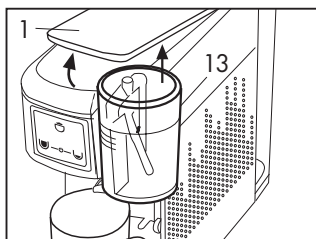
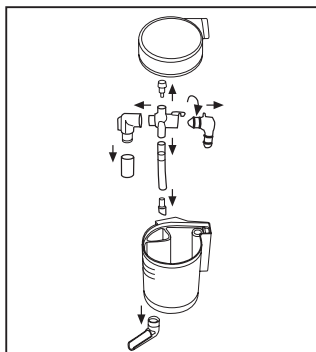

Fig. 16
Fig. 17
• When the machine starts dispensing coffee, within 1 second press and hold down the button (C) ; release the button (C) when the desired quantity of coffee has been reached; the machine will stop dispensing and the quantity will be memorised for future use.
Whenever milk is dispensed, lift the lever (1), remove and empty the beaker (13) and rinse it accurately. (Fig. 16) The beaker can be removed and washed in the dishwasher, extracting the various parts. (Fig. 17)